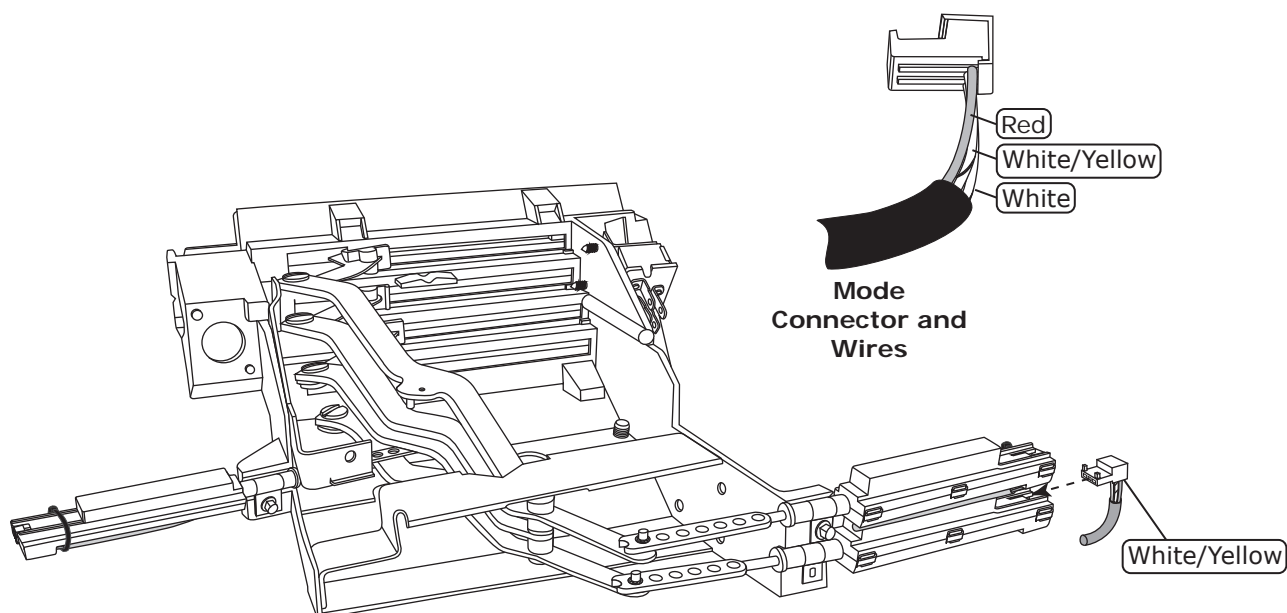

Figure 11
1. Locate the control panel wiring harness, and plug the corresponding connector into the correct cable converter assembly as shown in Figure 11, below.